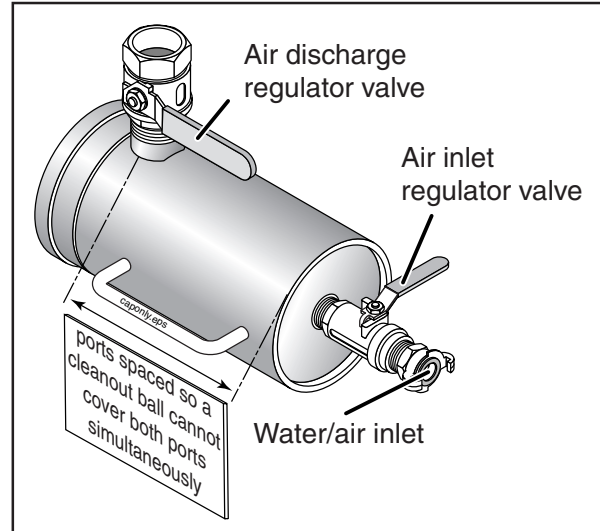

Figure 22
4. **Blow the delivery system with compressed air.** We do not recommend this method, because compressed air can be very dangerous if not handled correctly. Use it only as a last resort. Complete safety rules for using compressed air are discussed in the *Safety Manual*. **Never use compressed air to clean out rubber hose** because the hose will jump around and move through the air by the force of the pressure in the hose. You cannot hold or stand on the hose to steady it because the forces will exceed your weight, even if you are a huge person. You cannot have an entire crew of people holding the hose because the force will exceed all of their weights combined. If you have only steel pipe to clean, it is possible to use air, but it can still be dangerous. **Always control the discharge end of the pipeline. Either a catch basket must be used, or the discharge must be made safe in some other manner, such as routing it into a ready mix truck. The blowout head must have two pressure bleed possibilities: an inlet valve and a bleed-off valve. There must be enough space between the two valves that a cleanout ball cannot block both ports at the same time** (Figure 22). Remember, if you use this method, you must disconnect all rubber hose from the